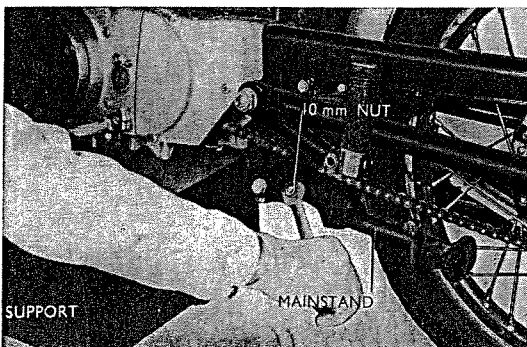

Fig. 4.47 Removing stand
5. Place a bench under the engine and loosen the 10 mm hex nut; remove the stand mounting bolt and the stand. (Refer to Fig. 4.47)